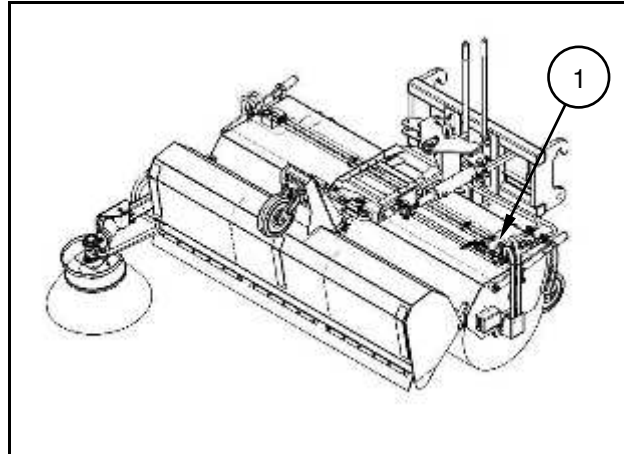

Fig. 6.1
- Close stopcock (1) for the emptying cylinder (Fig. 6.1) (must face rear turning roll).